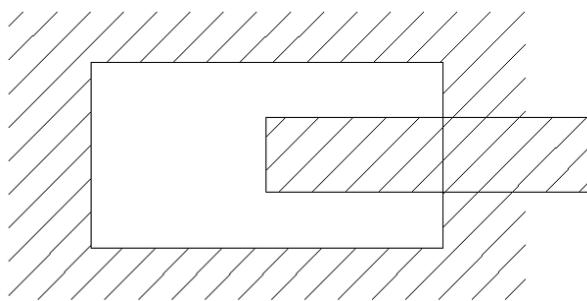

Fig.2-4
**Forbidden area overlapping:** Area can be set in piles (refer to the following Fig. 2-4). Unnecessary limits should be set beyond the machine stroke.